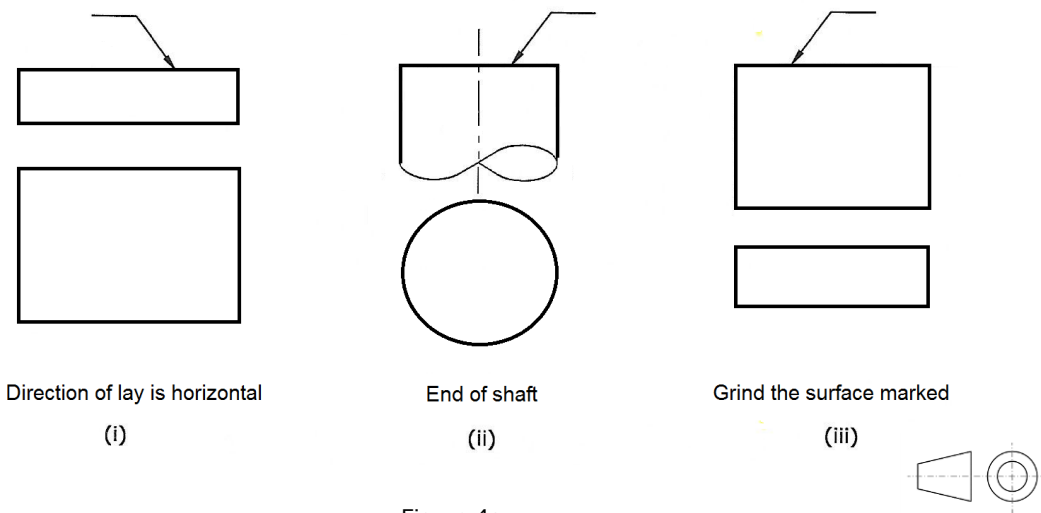

Figure 4a
- i. any manufacturing process is permitted; (1)
- ii. material removal is required; (1)
- iii. material removal is **not** permitted. (1)
- b) Draw, Figure 4a(i), 4a(ii) and 4a(iii), to a suitable size.
- i. In the drawings 4a(i) and 4a(ii), indicated by the arrow on the surface; show the direction of lay, in association with the machining symbol of the process of your choice. Also show the direction of lay or pattern on the given plan. (3)
- ii. In the drawing 4a(iii), indicated by the arrow on the surface; show that the surface is to be grinded to a value of surface roughness of (0.2). Include the representation of the specific process or production method. Also show the direction of lay on the given plan. (2)